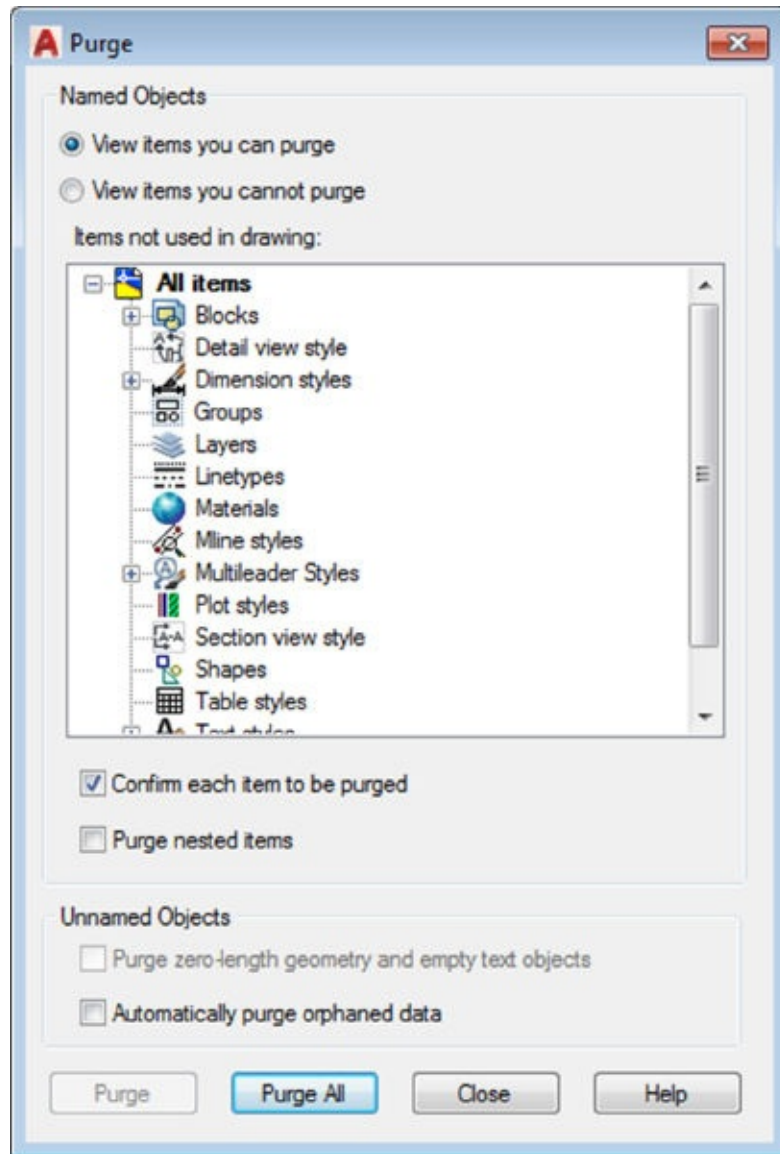

FIGURE 6.38 The Purge dialog box
1. In the lobby drawing, choose Drawing Utilities > Purge from the Application menu to open the Purge dialog box (see Figure 6.38). You'll see a listing of drawing components that can be purged. If the drawing contains any of the types of components listed, a plus sign appears to the left of the component name.
In the previous exercise, you selected a single block for removal from the lobby drawing. If you want to clear all the unused elements from a file at once, you can click the Purge All button at the bottom of the Purge dialog box (see Figure 6.38).